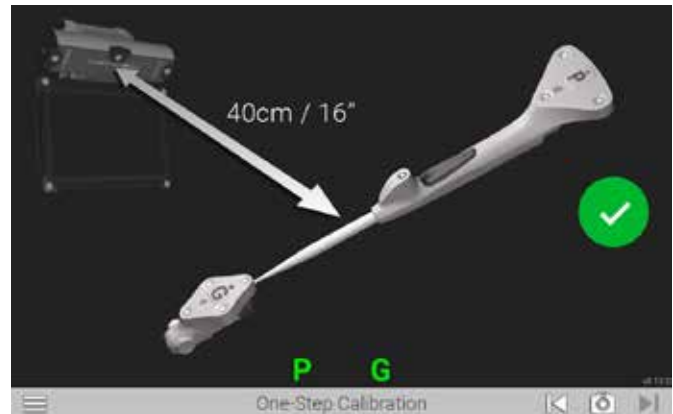

Figure 10
The One-Step calibration screen is displayed (*Figure 10*). Place the tip of the Probe Tracker (P) into the dimple node at the top of the Guide Tracker (G). Hold both together approximately 16 inches from the display unit ensuring the white diodes are facing the camera. When positioned correctly, the "G" and "P" status indicators on the display screen will appear green. Press the Forward button on the Probe to initiate calibration. The progress circle will display a green check mark to indicate a successful calibration. The system will automatically advance to the next screen.